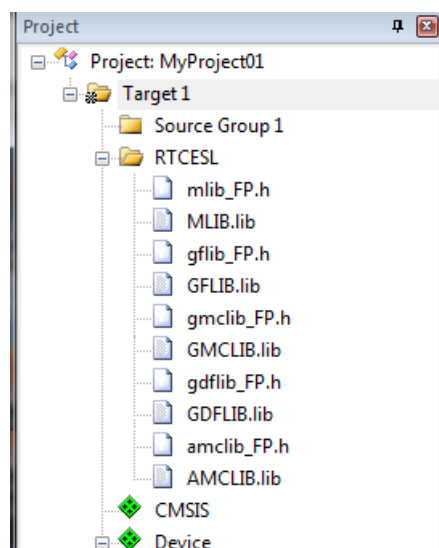

Figure 1-31. Project workspace
14. Now, all necessary files are in the project tree; see Figure 1-31. Click Close.